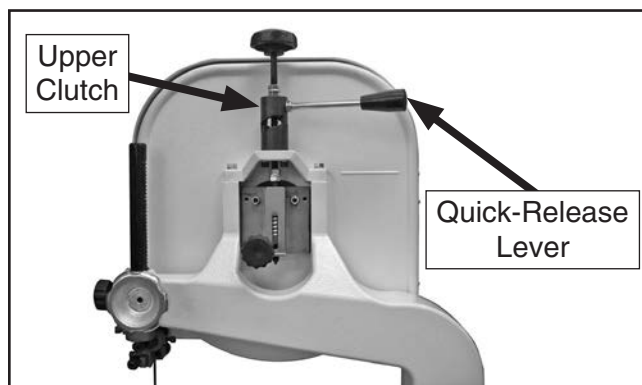

Figure 21. Quick-release lever installed.
16. Thread the quick-release lever (see **Figure 21**) into the upper clutch, and secure the position by tightening the jam nut.